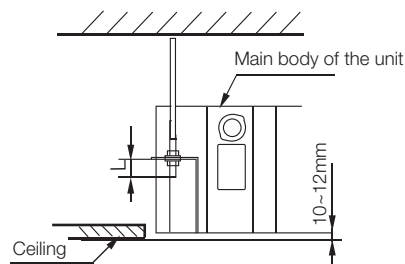

Fig. 4-10
- Locate the air conditioner firmly by wrenching the nuts after having adjusted the body's position well. (refer to Fig. 4-10).